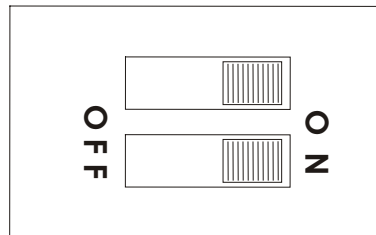

Figure 9-3 12V DO Dip Switch
- 3) Using a sharp tool (such as tweezers, a small screwdriver, or the tip of a ball-point pen), through the plastic wrap set the S3 dip switch (see Figure 9-3) on the DO module board to the desired position, according to the legend in Table 9-1.